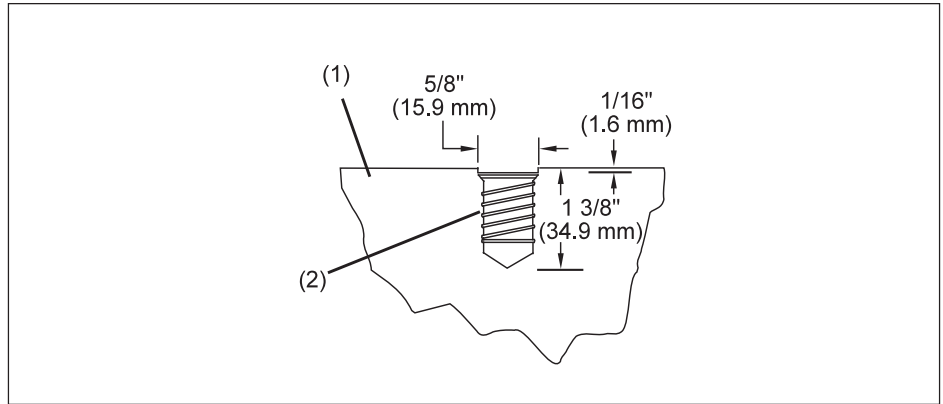

Figure 9. Wood Lane Hardware
1. At the locations marked on the approach for the foot attaching hardware drill 1-3/8" deep 5/8" diameter holes. Refer to *Figure 9*.